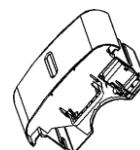

Fig.7
- Dispose the water (Fig 7) and reinstall it to the dehumidifier. The bucket must be installed securely for the unit to operate.